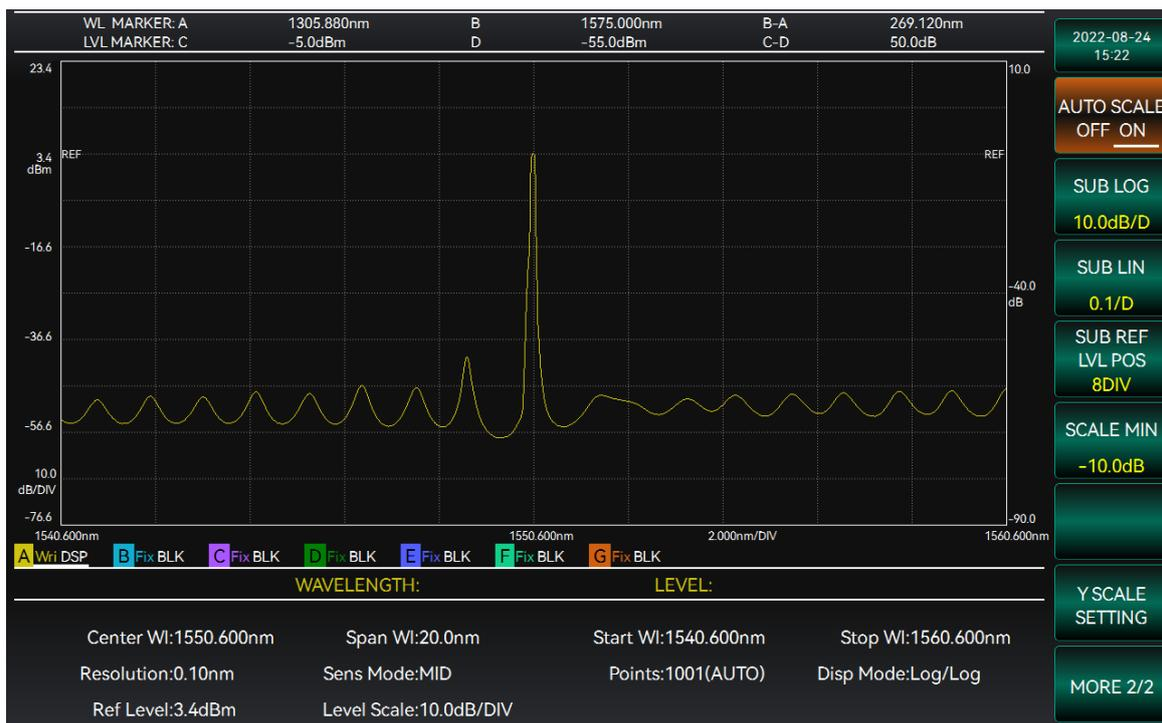

Figure 3-22 Setting sub-reference energy level interface
2. Select [SubRef], enter the sub-reference value via the knob or number keys to complete the setting. The operation interface is shown in Figure 3-22.